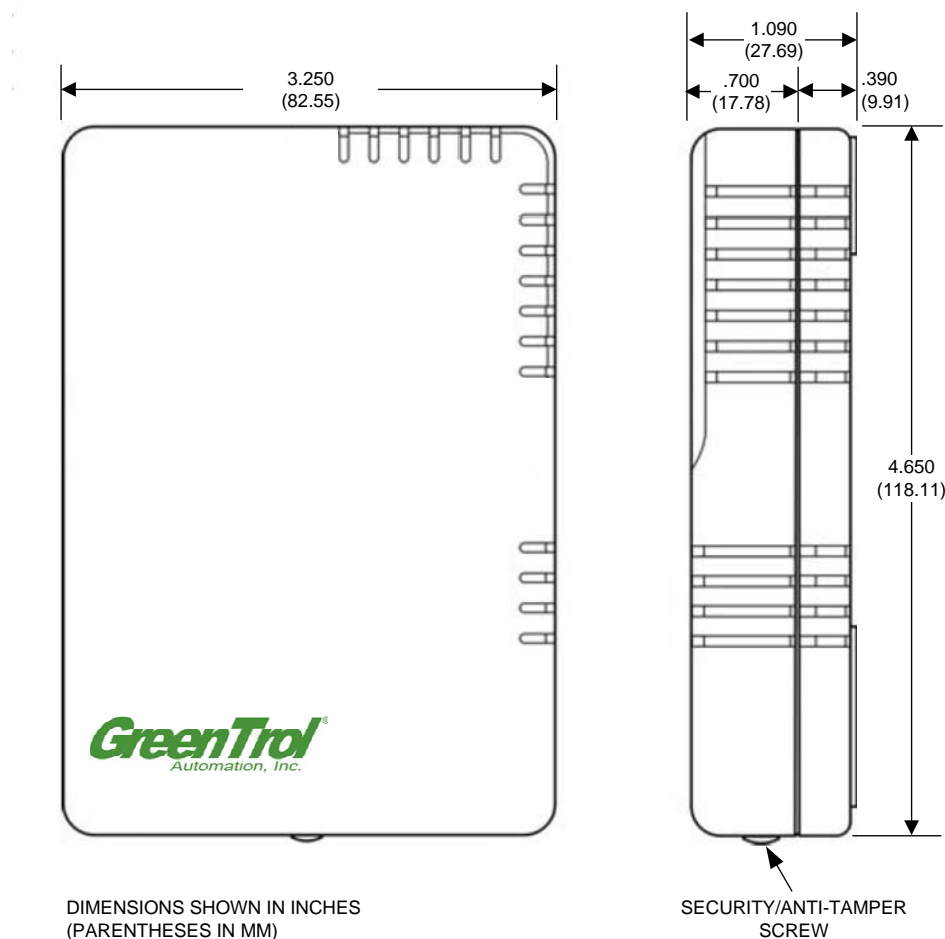
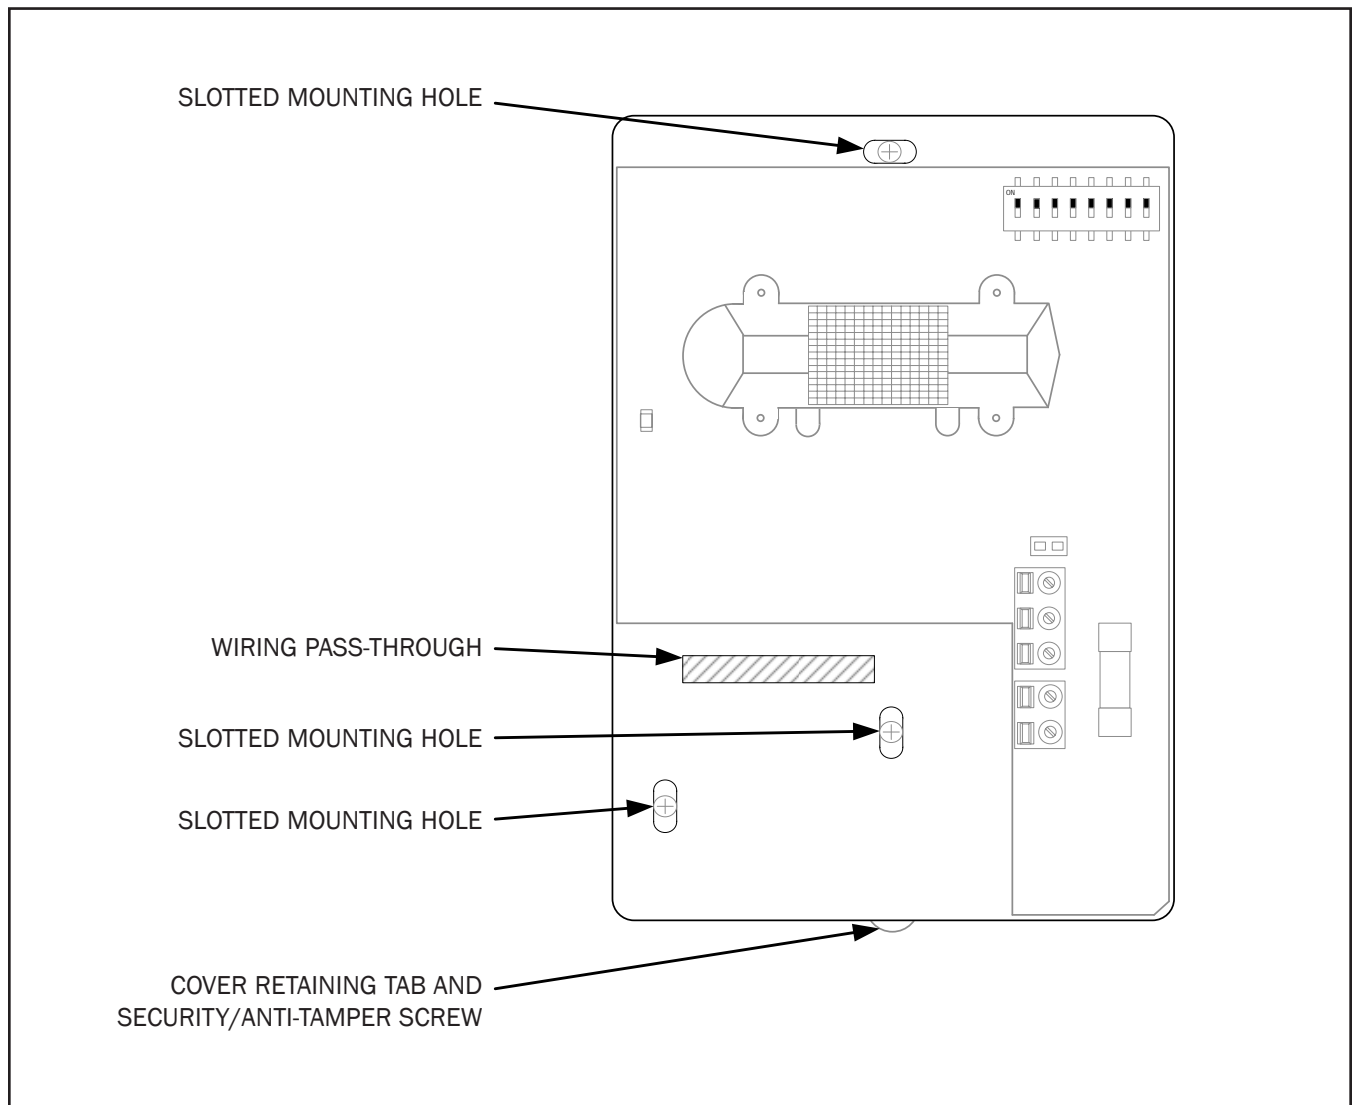

Figure 2. GS-100 Outline Dimensions
Figure 3. Marking Locations for Installation
Figure 2 details the mechanical outline dimensions of the GS-100. The location selected for the GS-100 is important to ensure accurate readings that are representative of the area to be monitored. Preferred mounting locations are:
Read and understand all installation instructions prior to installing the GS-100. The GS-100 is designed for surface mount installation, or for installation onto a standard (field supplied) single gang electrical junction box. Installation and wiring of the GS-100 must be accomplished in accordance with all local electrical and mechanical codes to ensure safety and compliance. Refer to Figure 2 for GS-100 outline dimensions, and Figure 3 for mounting hole locations.
5. Using the GS-100 base as a template, mark the location for the wiring pass-through slot and for the mounting screws as shown in Figure 3. For mounting directly to a single-gang electrical junction box, proceed to step 8.